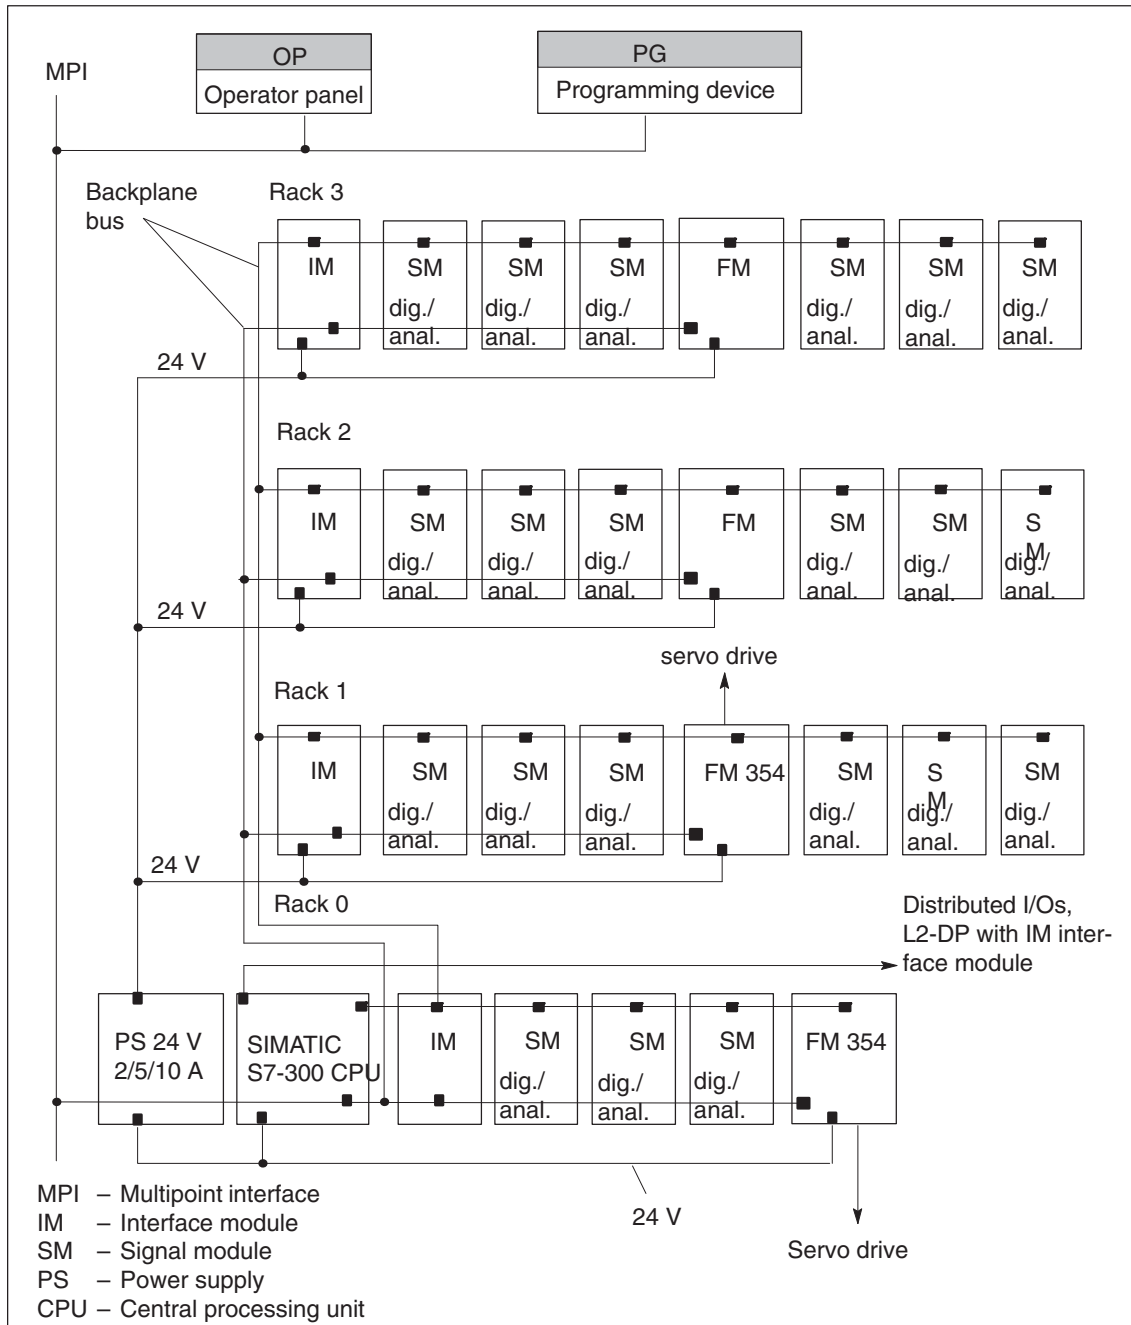

Fig. 1-1 Multi-rack configuration of a SIMATIC S7-300 with FM 354 (example)
A SIMATIC S7-300 CPU may run up to four racks with as many as eight bus stations each (see Figure 1-1).
Interface module (IM)	... connects the individual cells of an S7-300 with one another (applies to multi-rack configuration; see Figure 1-1).